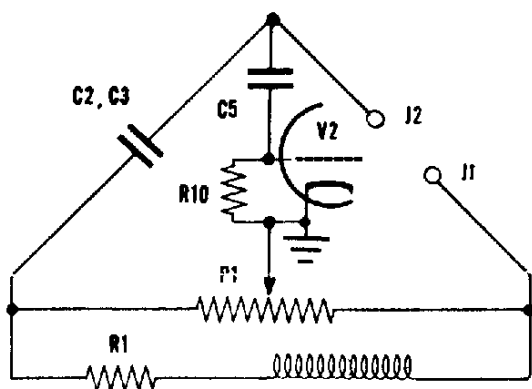

Fig. 1
- Fig. 1. Bridge circuit for "10 mmfd - 5000 mmfd" range (C2) and ".001 mfd - .5 mfd" range (C3).